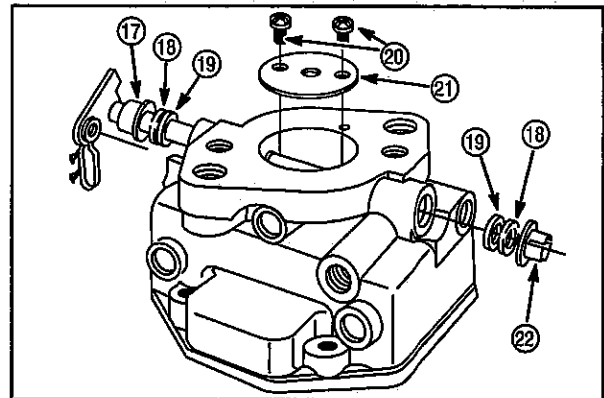

Fig. 102
10. Mark throttle plate (21), Fig. 102, before removing to ensure re-installation in the original position. Top and bottom edges are beveled. Remove screws (20) and throttle plate.
11. Remove retainer (22).
12. Remove throttle shaft with foam seals (18) and spacer (17).
13. Remove seals (19).